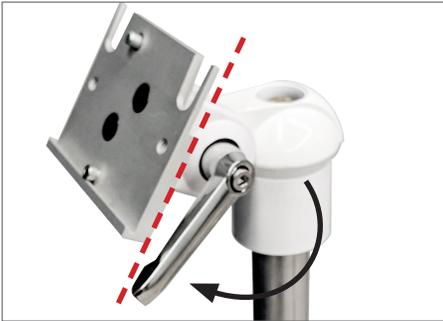
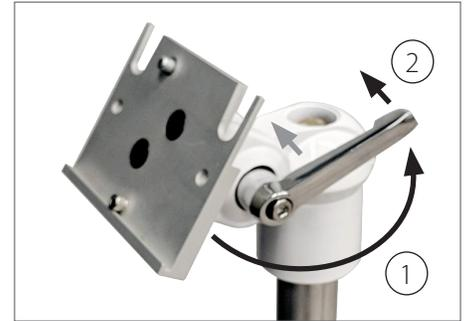

Figure 1
Figure 3
- A sufficient level of tightness may not be achieved by the time the Tilt-setting Lever touches the back of the Patient Monitor Shelf (**Figure 1**). If this occurs, PULL the lever AWAY from the MON Head to disengage the lever (**Figure 2**). TURN the lever COUNTER-CLOCKWISE (**Figure 3 [1]**) to create space for the lever to further tighten. PUSH the lever TOWARDS the MON Head (**Figure 3 [2]**) to re-engage the lever. Repeat Step 1 to further tighten the Tilt Hinge.